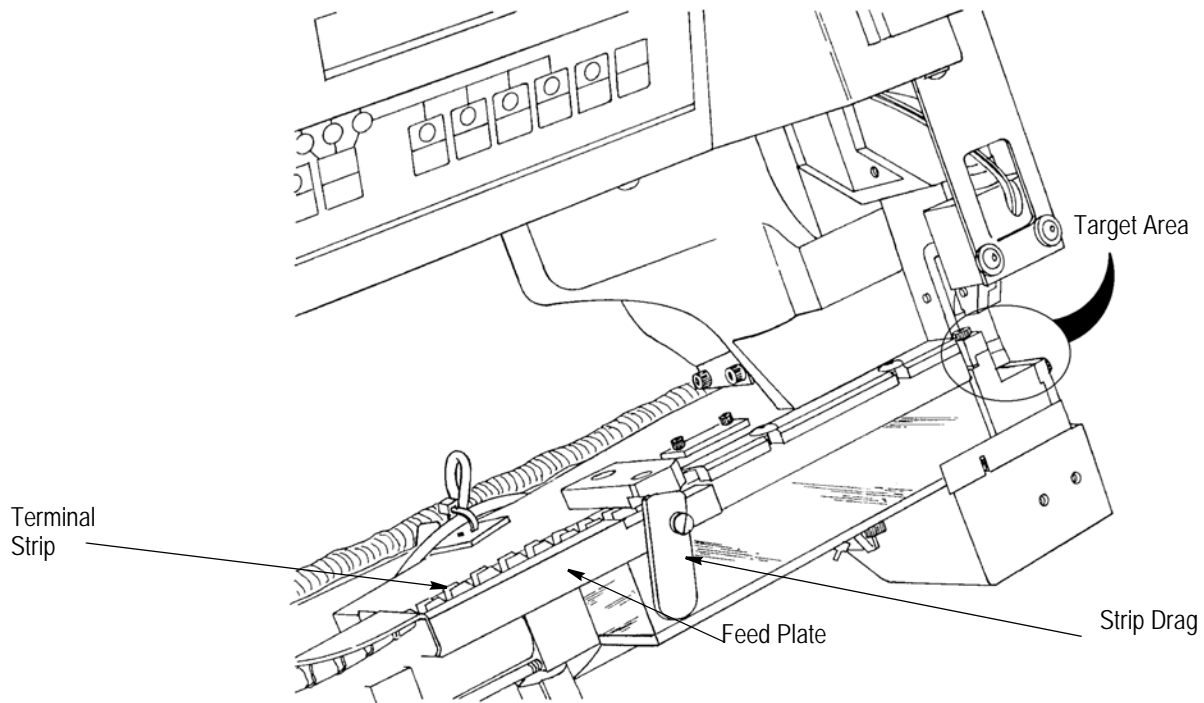
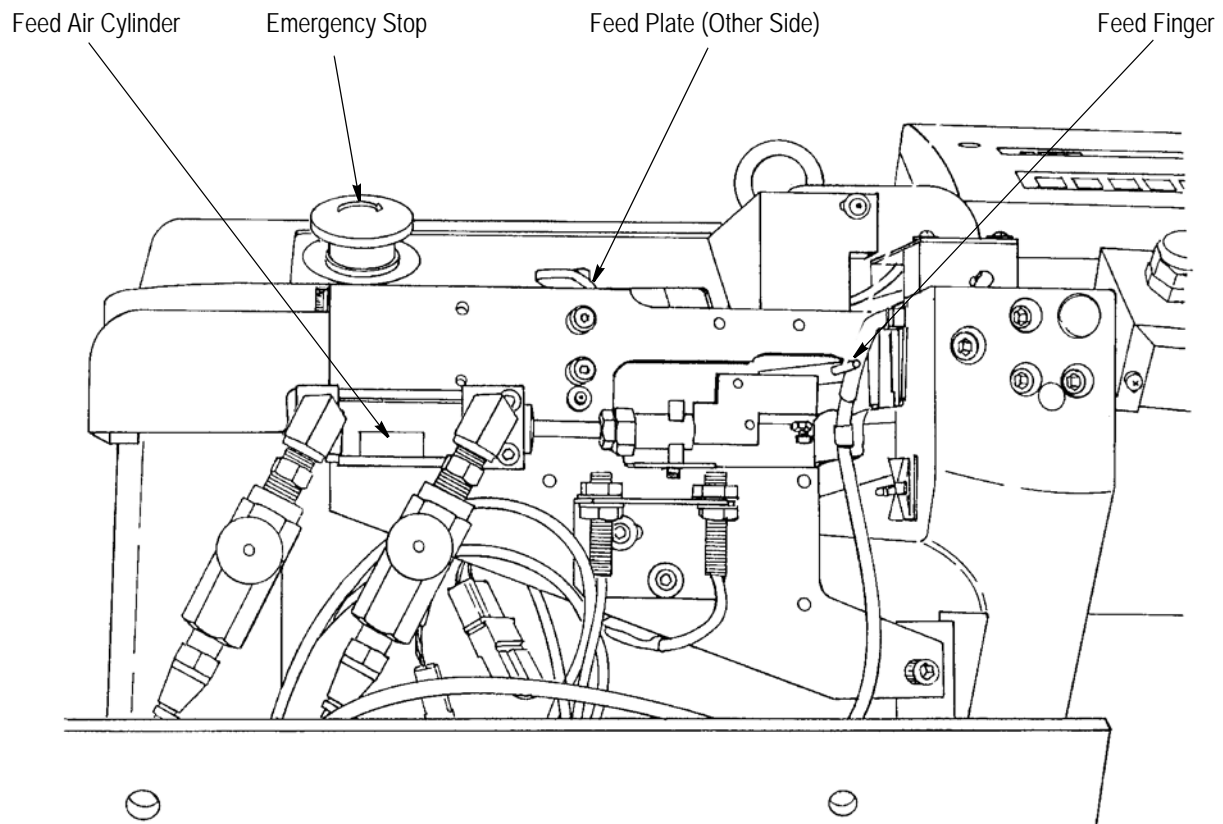

Figure 4
Figure 5
A. Feed Plate Group (See Figure 4 and Figure 5)